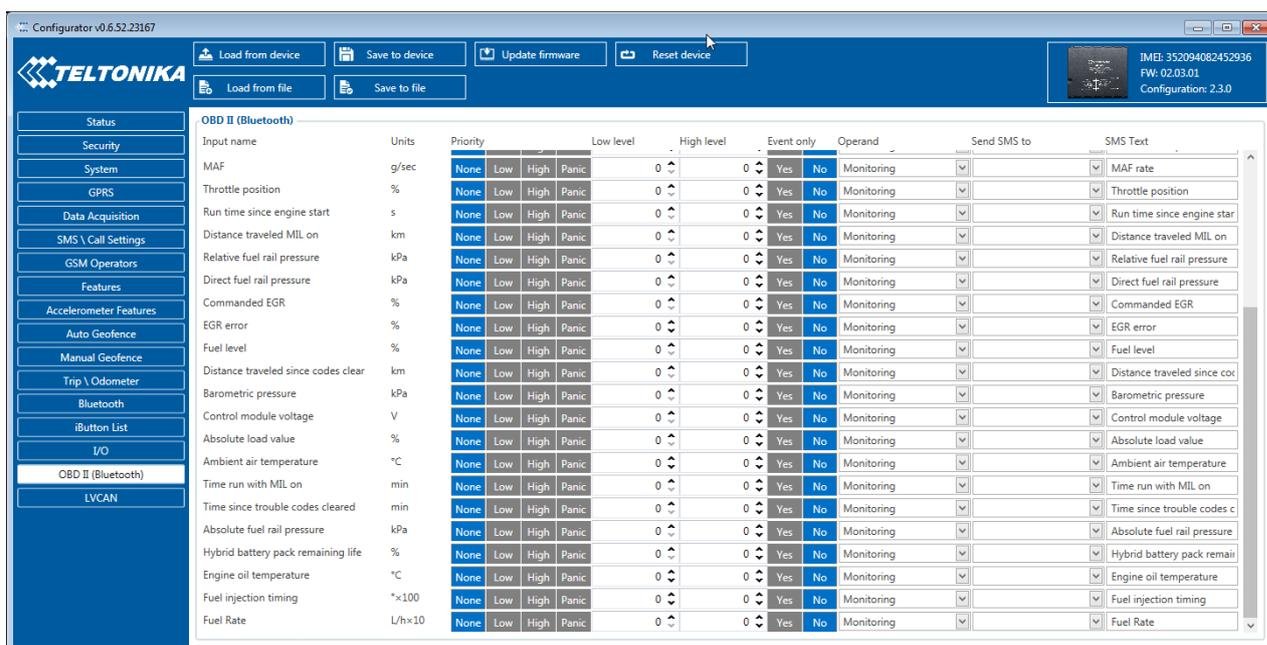

Figure 47 OBD II Bluetooth settings.
- Go to “**OBD II (Bluetooth)**” in left menu and select priority and others parameters visible at Figure 47.